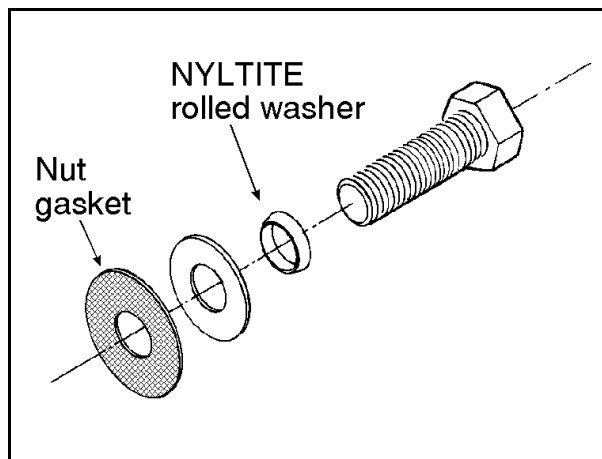

FIGURE 5 (MSSM0708BE)
NOTE 3: Install a new NYLTITE washer and nut gasket on each new shell bolt (see FIGURE 5).
4. Determine that the shell is clean and free from any old gasket material, then mount the shell onto the console using new shell bolts (FIGURE 5).
3. Determine that the shell is clean and free from any old gasket material, then using new shell bolts (FIGURE 5), mount the shell onto the console.